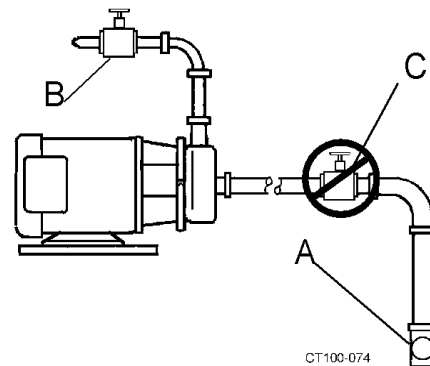

Figure 18 - Valve Piping Installation
- This pump is not self priming. If pump is installed above supply liquid level, install foot valve or other system check valve to keep system flooded for priming. (Figure 18, item A).
- A throttling valve may be required to control pump flow rate to prevent motor overload. Always install throttling valve (Figure 18, item B) in discharge piping and at least 10 diameters from pump outlet.
- **Never** install throttling valve in supply piping. (Figure 18, item C).